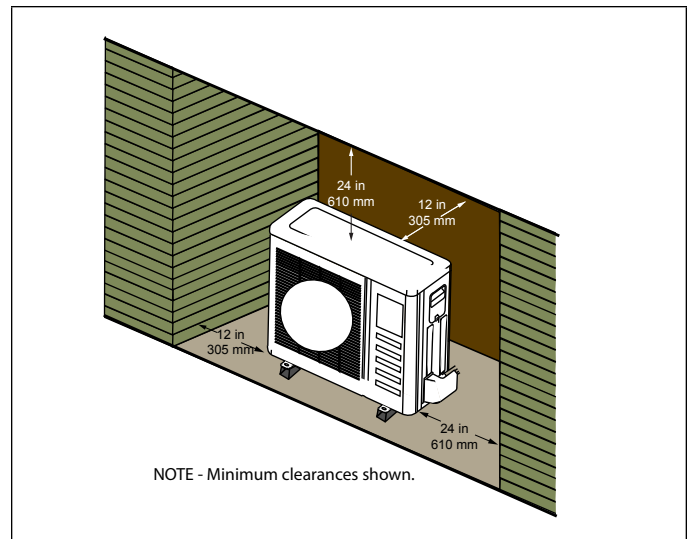

Figure 17. Unit Installed in Alcove
- Outdoor unit can be installed in an alcove or under a roof overhang as illustrated in “Figure 17. Unit Installed in Alcove”